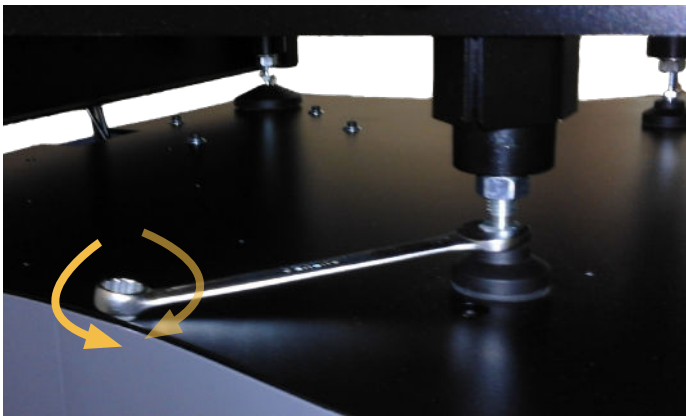

Figure 6
2) Adjust the height of feet 1, 2 and 3 with a 13 mm spanner as much as is necessary in order to get the spirit level in a centred position (the order of adjustment of the feet does not matter). (Figure 6)